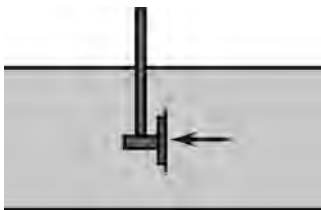

FIGURE 4.37 Target meter.
- Figure 4.37 illustrates a target flow meter.